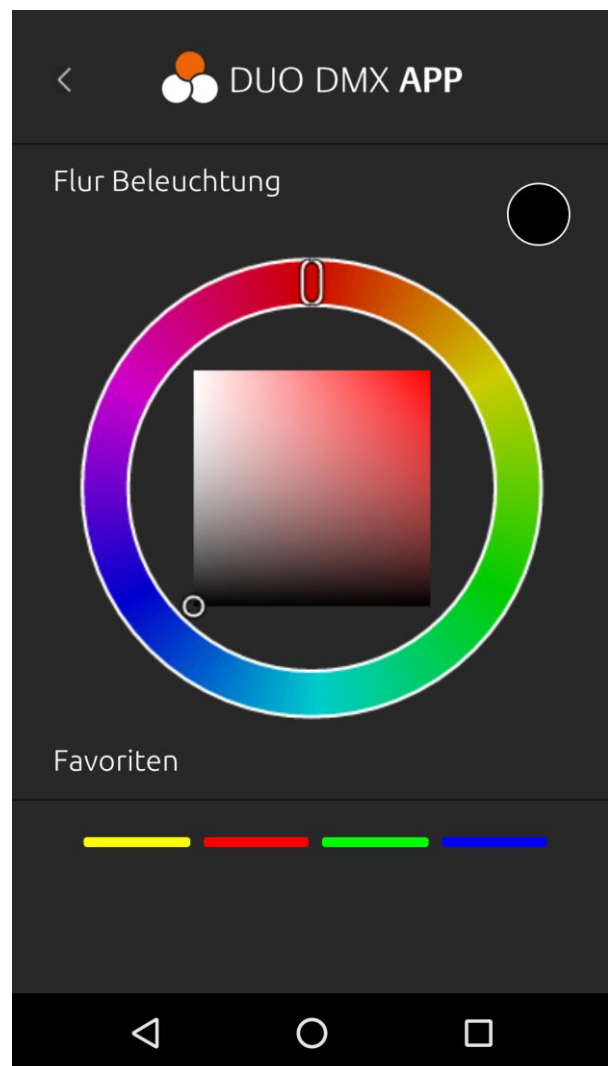

Figure 69: RGB(W) lamp 3(4) channel
- 1. Screen for the control of RGB or RGBW lamps (controlled by a colour circle; Figure 69: RGB(W) lamp 3(4) channel)
NOTE: In case that one of the favourite colours has to be changed, the colour can be directly changed in the “Lamp control”. It is not necessary to switch to the settings of the APP. To do so, the currently pre-set colour is applied by pressing and holding one of the four fields of the favourite colour for a longer time (see Figure 69: RGB(W) lamp 3(4) channel).